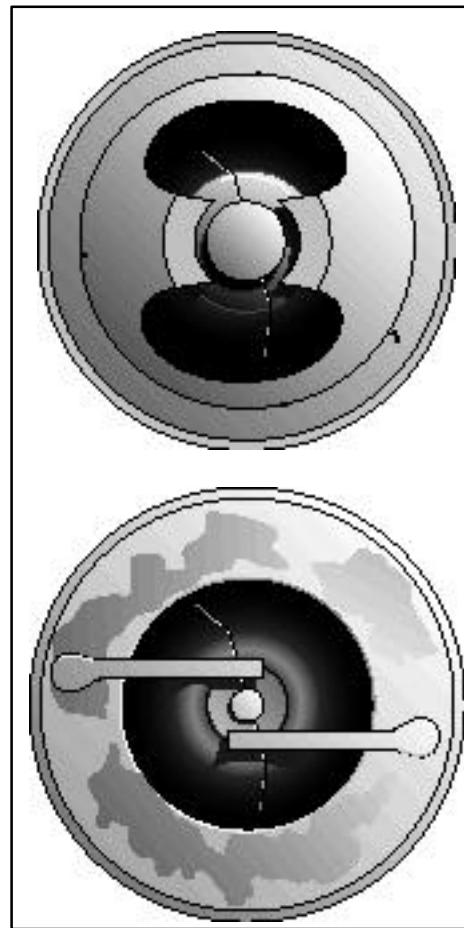

FIGURE 8-6c. Typical spark plug with cracked core nose.
(1) Occasionally, the ceramic nose core will crack, break away, and remain trapped behind the ground electrode. This piece of insulation material will then buildup heat to the point it will ignite the fuel/air mixture prematurely. The high temperatures and pressures encountered during this condition can cause damage to the cylinder and piston and ultimately lead to fusing and shorting out of the plug. (See figure 8-6c.)